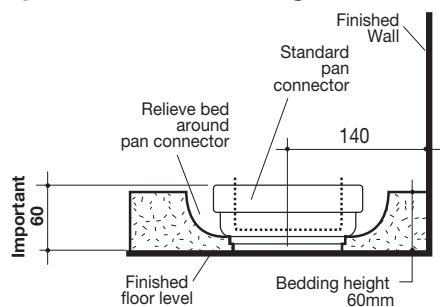

Fig. 1
The Profile pan 'S' and 'P' Trap installations are detailed in **Fig 1 & 2**. The recommended set-out for 'S'-Trap installations is 140mm from the finished wall. It is important to position the pan collar 60mm max. from the foot level of pan as detailed in **Fig. 1**.
- 3- Prepare bedding sand cement mixture 3:1 to depth of 60mm as detailed in **Fig.1**.